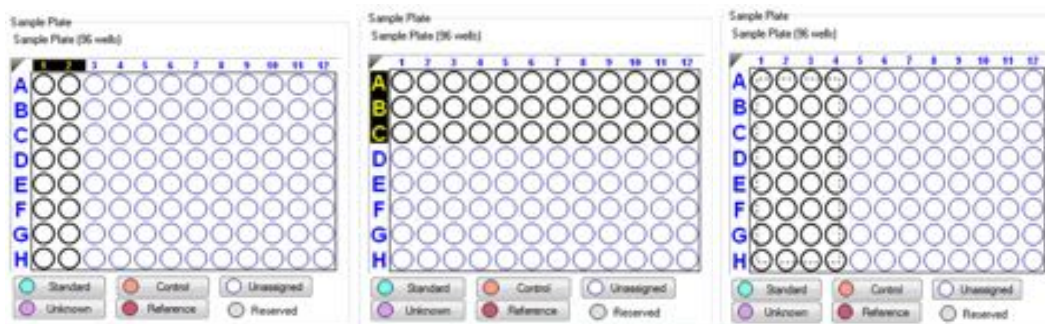

Figure 9-2: Selecting Wells in the Sample Plate Map
- Click a column header or select adjacent column headers by click-hold-drag. To select non-adjacent columns, hold the **Ctrl** key and click the column header (Figure 9-2 left).
- Click a row header or select adjacent row headers by click-hold-drag (Figure 9-2, center).
- Click a well or draw a box around a group of wells (Figure 9-2, right).